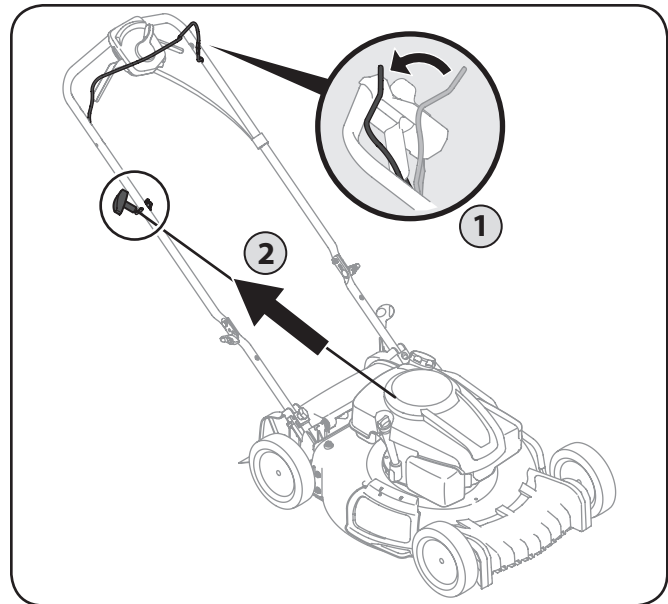

Figure 5-1
1. Standing behind the mower, squeeze the blade control against upper handle. See Fig. 5-1.
2. Holding the blade control and handle together firmly, grasp recoil starter handle and pull rope out with a rapid, continuous, full arm stroke. See Fig. 5-1. Keeping a firm grip on the starter handle, let the rope rewind slowly. Repeat until engine cranks. Let the rope rewind each time slowly.